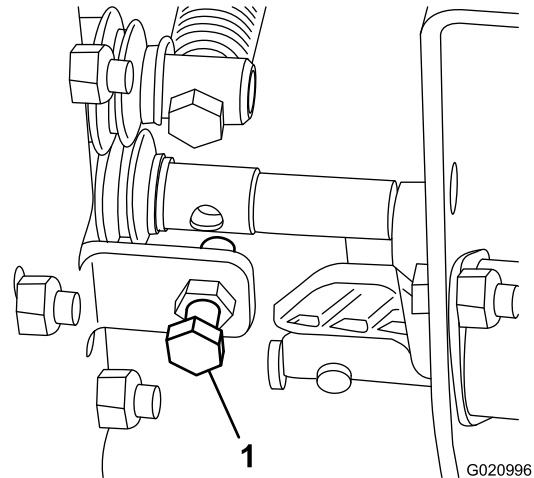

Figure 20
- If the lift speed of the machine is too slow or too fast, adjust the bolt indicated in Figure 20.